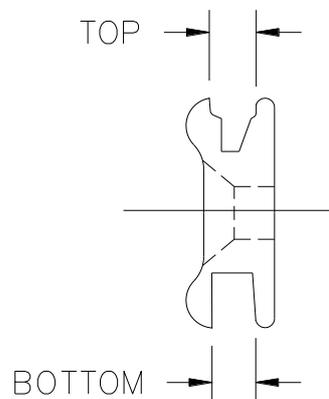

Figure 3: A worn slider indicating where to measure.
4. Figure 3 shows how a worn part normally looks and where to measure the groove width. The TOP and BOTTOM profile differs on a worn part and as such both the top and bottom slide grooves are to be measured with a calliper.